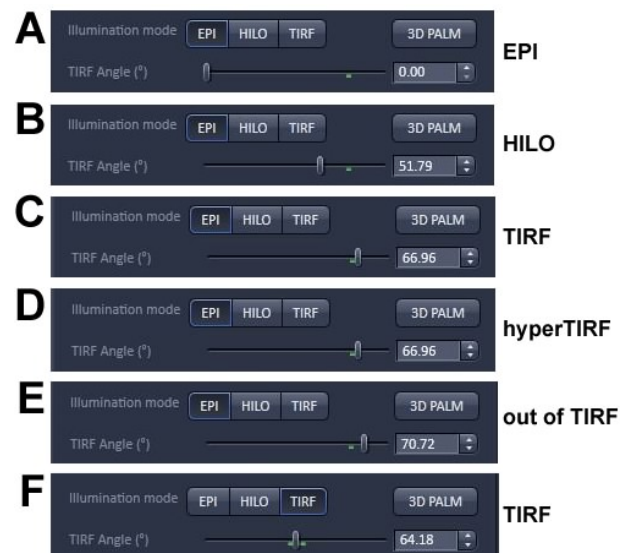
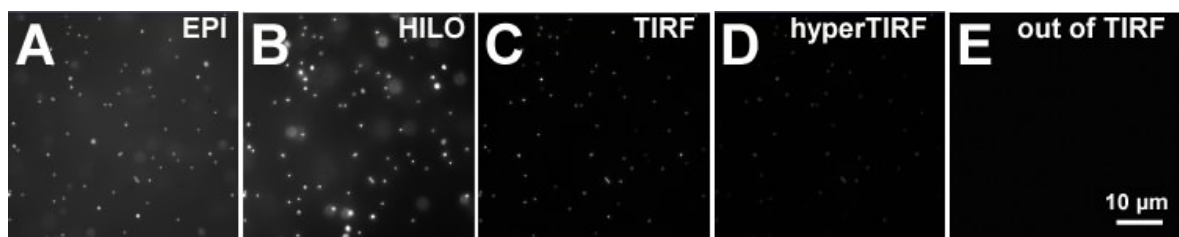

Fig. 105 "TIRF angle (°)" adjustment slider with "EPI" (A-E) and "TIRF" (F) mode activated.
Fig. 106 TIRF beads imaged in "EPI" (A), "HILO" (B), "TIRF" (C), "hyperTIRF" (D) and "out of TIRF" (E) positions of the "TIRF angle (°)" adjustment slider
- 4.) Select **EPI** mode (**TIRF angle** slider to the very left) in the **Channels** menu (Fig. 105/A) and focus on the settled beads using the 488 nm laser line (Fig. 106/A). Besides the settled in-focus beads you also should see blurry floating out-of-focus beads.
- 5.) Start moving the **TIRF angle** slider to the right. The image appearance will change as follows (Fig. 105/B-E):
- a. **EPI** mode: on coverslip settled beads in focus plus floating blurry beads in solution with prominent haze from out-of-focus regions (Fig. 106/A)
- c. **HILO** mode: settled beads and out-of-focus beads become brightest (Fig. 106/B). Haze is reduced further.
- e. **TIRF** mode: Signal-to-noise ratio improves tremendously as out-of-focus haze disappears. Settled beads are clearly visible, whereas floating beads are not detected any longer (Fig. 106/C).
- f. **HyperTIRF** mode. Signal of settled beads is fainting (Fig. 106/D).
- g. **Out of TIRF** mode: Settled beads are no longer visible (Fig. 106/E).
- 7.) Go to **TIRF** mode (Fig. 105/F) and enter the TIRF position determined in step 6 in the input box. Press **Enter** to move slider to the position.